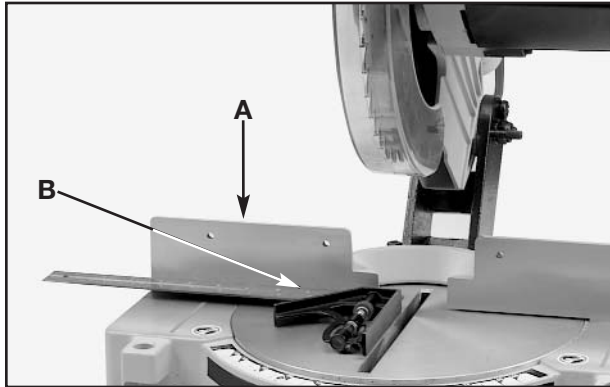

Fig. 19
If the fence (A) Fig. 19 is removed from the saw, re-adjust it so that it is 90 degrees to the blade when the fence is replaced.
1. Place one end of the square (B) Fig. 19 against the fence (A) and the other end against the blade.